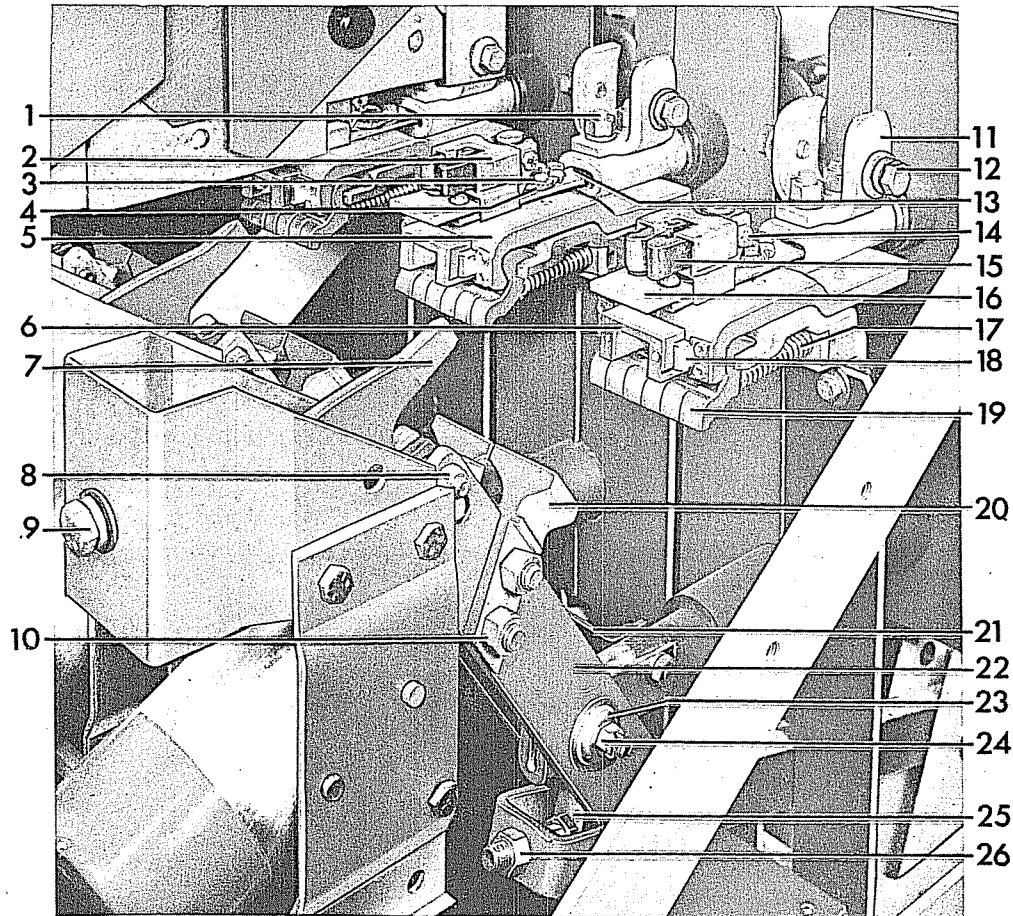

Fig. 21 (8037373) Contact Assembly
2. Primary Contacts (19 and 20 Figure 21). Inspect the condition of the stationary contact fingers and movable contact blocks. Badly pitted or burned contacts should be replaced. (Note: Burned primary contacts indicate the probable need for arcing contact replacement.) If the contact surfaces are only rough-
3. Arcing Contacts (2 and 7 Figure 21). When the arcing contact wipe is less than the minimum specified under ADJUSTMENTS, the contacts should be replaced. The contacts should be inspected for uneven wear and/or damage using a mirror to inspect the stationary contacts. Normally it will not be necessary to remove the interrupters for this 2000 operation servicing unless inadequate wipe or contact condition indicate a need for replacement. If the interrupters are removed, the contact braids, and other parts subject to arcing should be checked for possible cleaning or replacement. Do not grease the arcing contacts under any circumstances.
7. The cup bearing (23) Figure 21 and the contact ring at the hinge point of the contact blade should be disassembled, inspected, cleaned, and relubricated with G-E contact lubricant D50H47. The contact ring should be inspected for wear and replaced when reduced in thickness to less than 1/32". When reassembling the cup bearing, be sure the cotter pin is properly assembled in the castle nut on the hinge pin (24). This assures proper contact pressure at the hinge.
3. The stationary primary contact fingers (19) Figure 21, should be disassembled and the silver-plated pivot area of the contact and contact support cleaned and lubricated with G-E. lubricant D50H47.
#### A. Stationary Arcing Contacts (2), Figure 21.
1. Disconnect the contact braids (4) from the contact fingers by removing two bolts and locking plates (14).
3. To disassemble braids from stud plate remove one bolt (13).
4. To disassemble stud plate from contact support, remove two bolts (3).
5. Reassemble in the reverse order, make sure locking plates are properly re-assembled with bolts (14).
#### B. Movable Arcing Contact (7) Figure 21.
1. Remove the assembly bolts (8) making note of quantity and location of shims and spacers used between contacts and contact arms.
D. Movable Primary Contacts (20), Figure 21.
3. Rotate the two parts of the contact arm assembly away from each other so accessible and movable primary contacts (20) can be removed.
E. Contact Arm Assembly (7, 20, 22, Figure 21).
1. Remove connection bar (21).
2. Disassemble hinge pin (24), cup bearing (23), and operating rod pin noting quantity and location of any washers and spacers used in assemblies.
5. Disassemble the spring retainer (4) by removing mounting bolts (5).
6. Referring to Figure 21, disassemble the contact support (5) and interrupter mounting bracket (11) removing two bolts (1).
7. Reassemble in the reverse order. The interrupter mounting bracket (11) is not symmetrical and must be assembled correctly to orient the interrupter properly on the breaker. The longest projection of the bracket should be toward the front end of the bushing.
3. Remove the connection bar (21), Figure 21, cup bearing (23), and hinge pin (24).
5. When reassembling, first mount the bushing and assemble the cup bearing (23), contact arm (22), and replace pin (24) being sure the silvered contact washers between the bushing and contact arms are in place. The contact surfaces at the hinge point of the contact blade and bushing should have a thin coating of D50H47 grease.